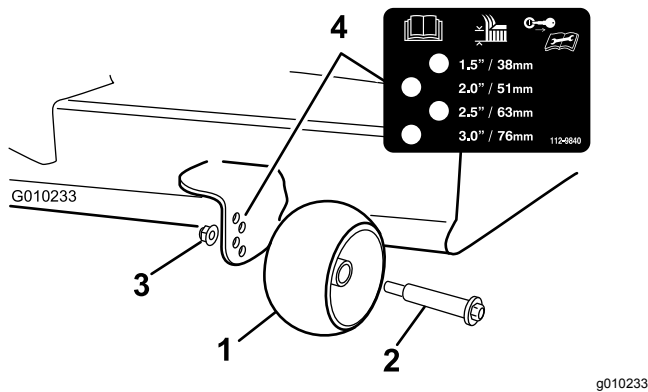

Figure 24
3. Adjust the anti-scalp rollers as shown in Figure 24 to match the closest height-of-cut position.